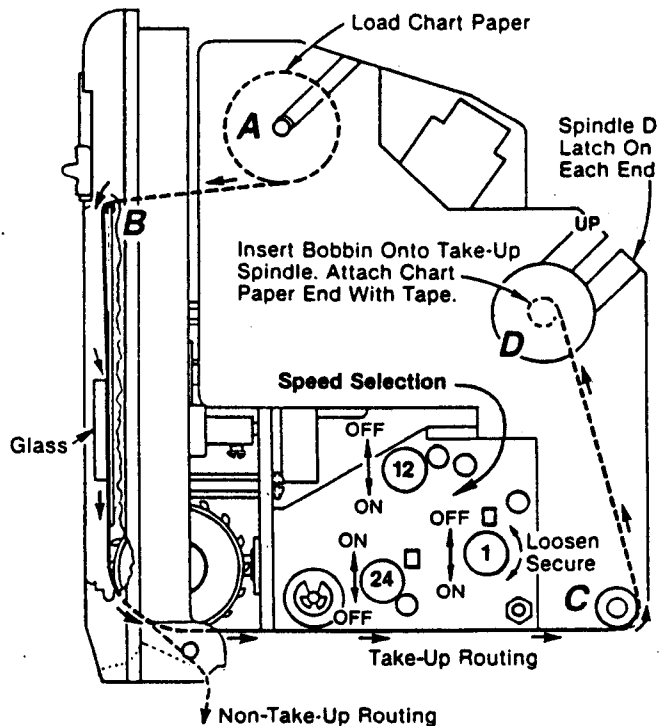
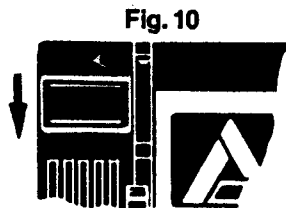
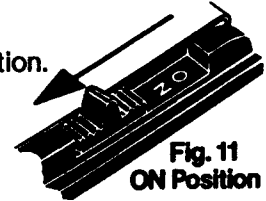

Fig. 9
Fig. 10
Fig. 11
3. To insert or remove chart paper, place recorder in horizontal position and press the release button in the direction shown in fig. 10. Raise recorder mechanism to a vertical position until it locks. Remove feed shaft **A** (see fig. 9) and place chart roll on spindle. Remove tape on roll and retain tape for securing chart on take-up spindle **D**. Unroll about 12" to 15" and route paper over top edge of scale plate **B** underneath glass, over the sprocket wheels, to the rear and over the idle roller **C** up to the cardboard bobbin mounted on take-up spindle **D**. Secure edge of chart to bobbin with tape. Make sure the sprocket holes in the paper engage the sprocket wheels. Be
sure that feed control is tight and in the right position. The word "ON" must be visible. Press in the idle roller extension **C** to allow the recording mechanism to move back down into case and lock into position. Replace cover by positioning the "U" bend onto the plastic projections and snap front down. Make sure chart paper is not binding with the cover in place. For "non-take-up" recording, route chart through bottom slot as shown in fig. 9.
1. To select chart speed, energize recorder with proper line voltage and frequency. Raise recorder to vertical position (see loading and unloading chart paper on take-up models). Move chart drive switch to "ON" position exposing the word "ON". Make sure switch clicks into detent (see fig. 11). Set all three speeds to "OFF" position and tighten (see fig. 9). Move desired speed knob (1, 12 or 24) to "ON" position. Tighten while keeping pressure on gear mechanism.
2. Press in the idle roller extension **C** to allow the recording mechanism to move back down into the case and lock into position. Replace cover by positioning the "U" bend onto the projections above the chart well opening. Make sure chart paper is not binding with the cover in place. For "non-take-up" recording route chart through bottom slot as shown in figure 9.
7. Push chart drive switch to "ON" position (exposing the word "ON"). See fig. 11. Make sure switch clicks into detent position which locks it into place.